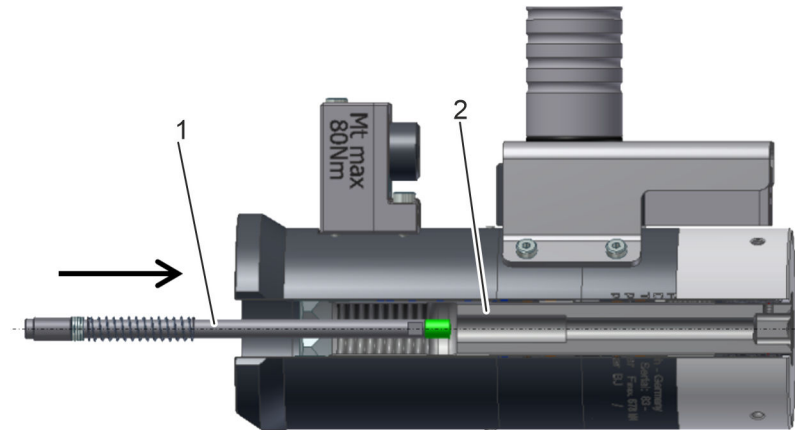

Fig. 16: Tension bolt
4. → Insert the assembled measuring rod (Fig. 16/1) into the tension bolt (Fig. 16/2).